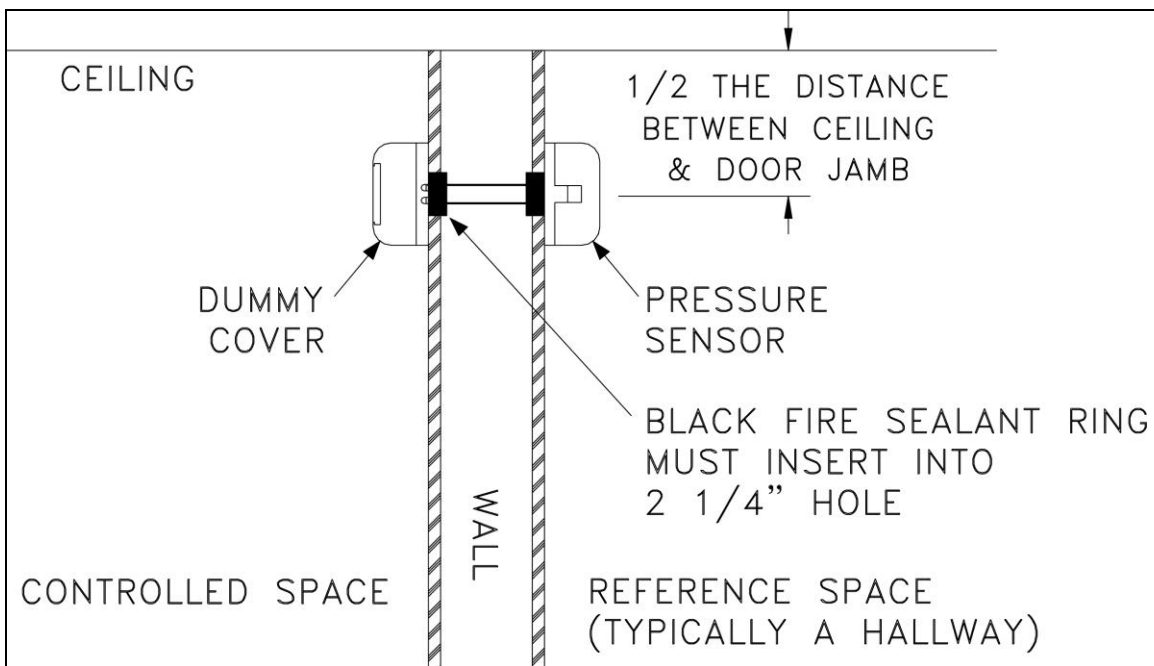

Figure 3: Cutaway View of Mounted Pressure Sensor
7. From the side of the wall the sensor will be mounted, slide the sensor tube through the wall. Slide the dummy base over the end of the tube. Screw the pressure sensor base and dummy base to the wall (Figure 3).